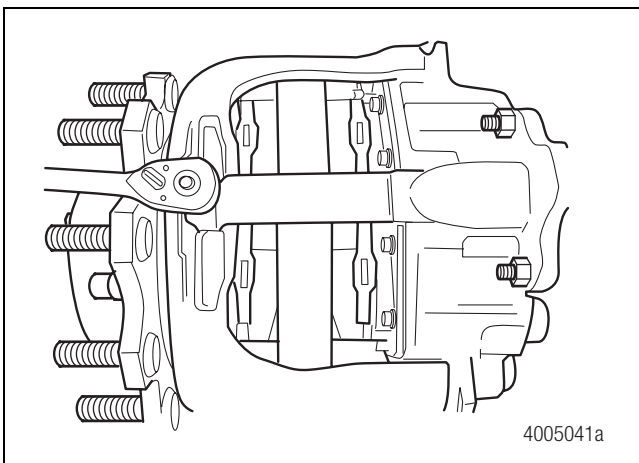

Figure 4.17
- Install the pad retainer and pad retainer bolt. Tighten the bolt to 25-30 lb-ft (34-40 N•m). Figure 4.17.